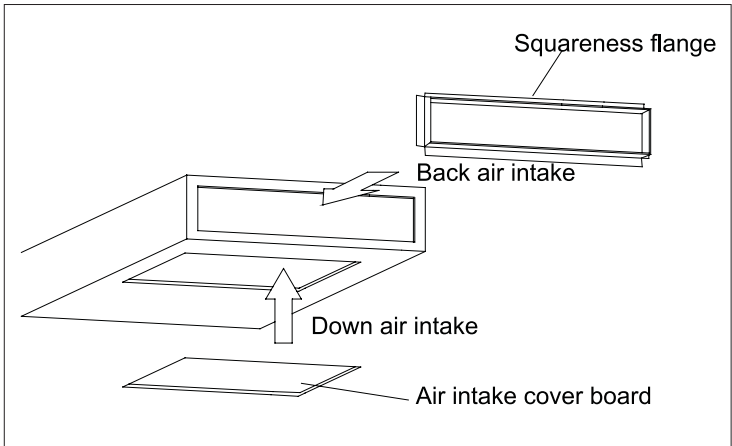

Figure 1-1-14
- Mount the round flange for connection of the fresh air duct, as shown in Fig. 1-1-14(b).
The square flange is mounted on rear section when it is shipped. The return air inlet cover plate is mounted beneath, as shown in Fig. 1-1-14.